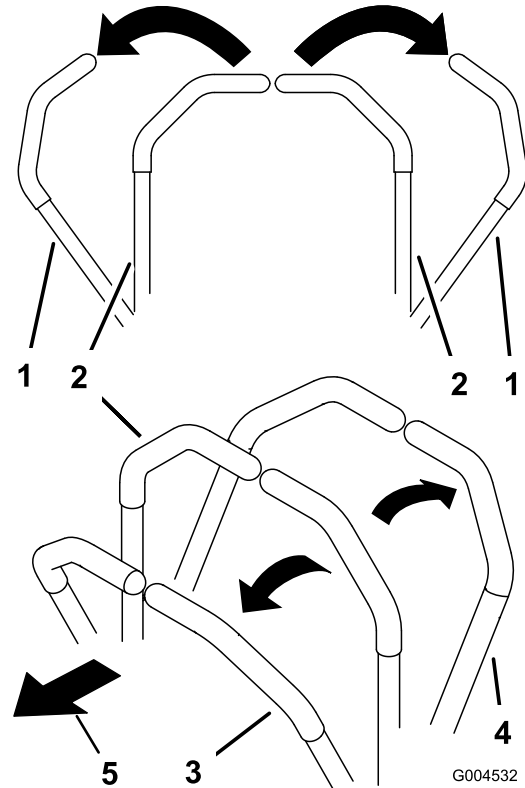

Figure 17
2. To go forward, slowly push the motion control levers forward (Figure 17).